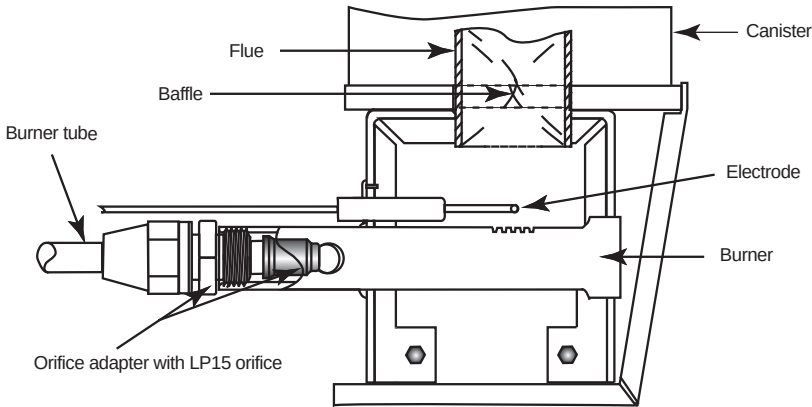

Fig. 17 - Burner and Components
Step 6 through Step 8, refer to Fig. 17.